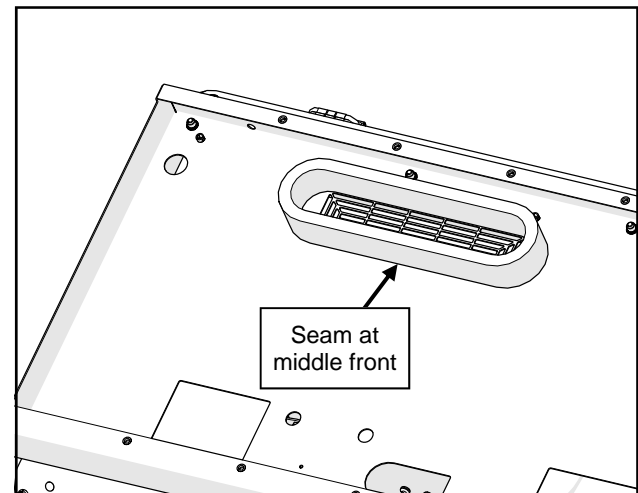

Fig. 2.2 (Install Foam Around A/C Intake Vent)
- 2.2** Adhere the strip of expanding foam to the upper surface of the roof pan, around the vent toward the rear of the pan, starting at the middle-front of the vent. Figure 2.2.